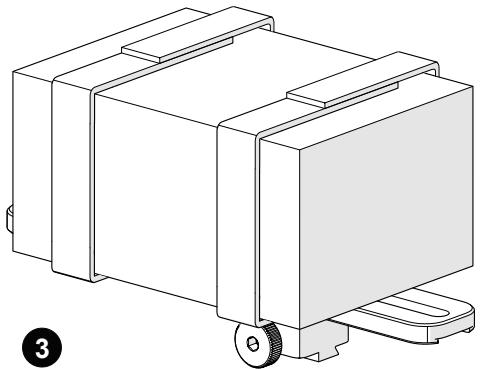

Fig. 89 - Mount bracket on a frame bar
3. Secure the preamp to the bracket, attaching each side of the velcro (Fig. 89).